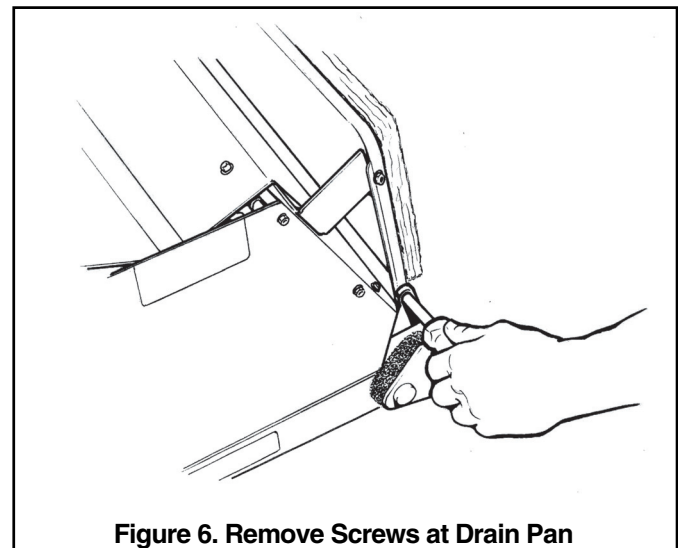

Figure 6. Remove Screws at Drain Pan
- c. Detach the tray by removing the two screws at the drain pan and the two screws holding the two brackets at the top of the coil. See Figures 6 & 7.
- b. Replace this baffle with the factory supplied narrow coil baffle using the screws removed previously. See Figure 6.